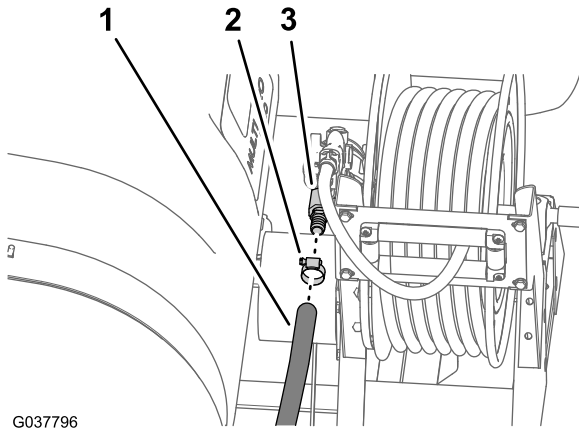

Figure 40
1. Remove the hose clamp that secures the supply hose to the straight-hose barb of the hose reel (Figure 40).
2. Remove the hose from the hose barb (Figure 40).